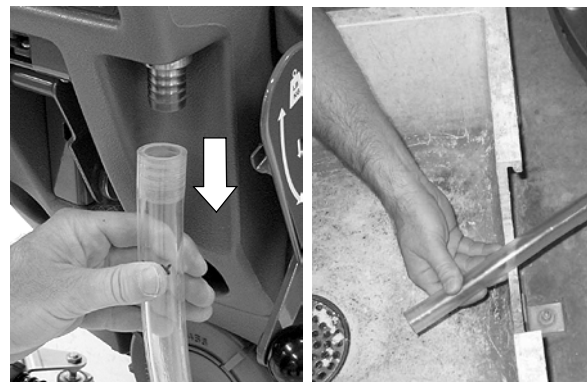

FIG. 31
1. To drain any remaining water from the solution tank, pull the solution tank level hose off the hose fitting as shown (Figure 31).